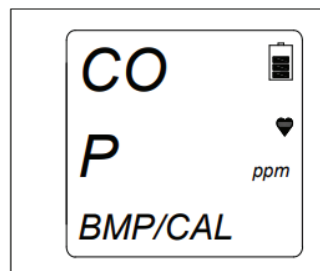

Figure 26
- 5.6.9** If the bump test passes, the LCD will display "P" (passed) and "BMP/CAL", as shown in Figure 26. Proceed to Section 5.6.17.